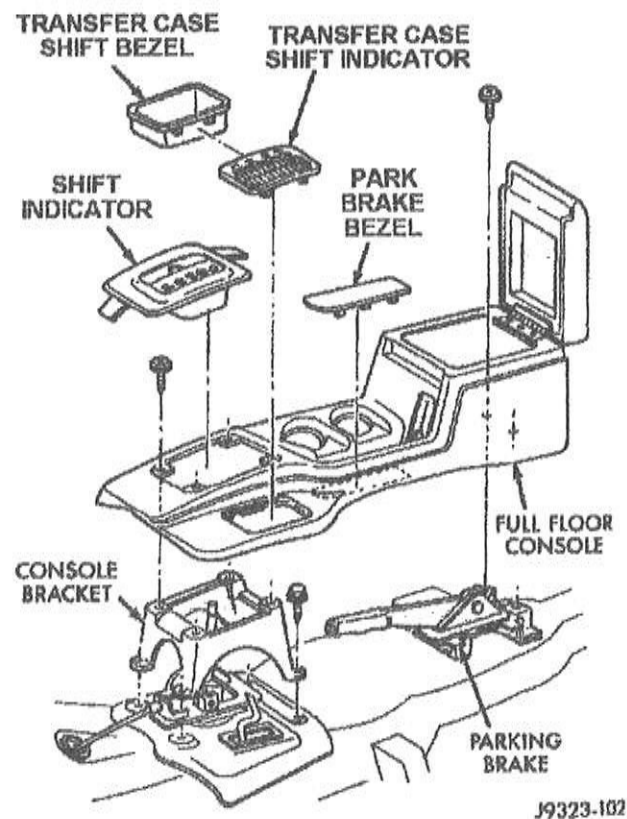

Figure 1
3. Pry up the transmission shift indicator bezel with a trim stick (Figure 1).
5. Pry up the transfer case shift indicator bezel with a trim stick (Figure 1).
7. Remove the park brake bezel and the console attaching screws and then remove the console (Figure 1).
54. Install the console and secure it with the attaching screws (Figure 1).
56. Install the lamp socket into the transfer case shift bezel and then install the bezel into the console (Figure 1).
57. Install the lamp socket into the transmission shift indicator bezel and then install the bezel into the console (Figure 1).